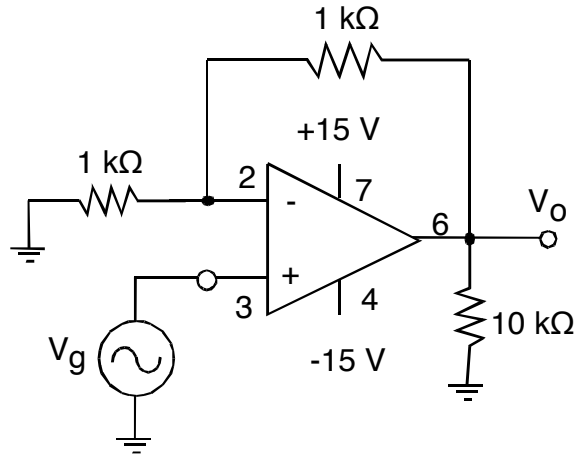

Fig 5: Non-inverting amplifier circuit
- (1) Assemble the non-inverting amplifier circuit shown in figure 5. Remember to shut off the $\pm 15\text{ V}$ supply before assembling a new circuit. Use the decade resistor box for the feedback resistor (the $1\text{ k}\Omega$ resistor between pins 6 and 2).
- (2) Apply a 1 V amplitude, 1 kHz sine wave at the input, and display both input and output on the oscilloscope. Measure the voltage gain of this circuit, and compare to the theory discussed in class. Make a plot of the input/output waveforms in your notebook.
- (3) Increase the feedback resistance from $1\text{ k}\Omega$ to $9\text{ k}\Omega$. What is the gain now?
- (4) Increase the feedback resistance further until the onset of clipping, that is, until the peaks of the output signal begin to be flattened due to output saturation. Record the value of resistance where this happens. Increase the feedback resistance to $999\text{ k}\Omega$. Describe and draw waveforms in your notebook. What is the theoretical gain at this point? How small an input signal would be required to produce a 10 V amplitude sine wave at the output, given this gain? Try to adjust the function generator to this value. You may need to use the 0.2 V button on the function generator, which reduces the output amplitude. You will also need to lower the frequency from 1 kHz to 100 Hz . Describe the output achieved.